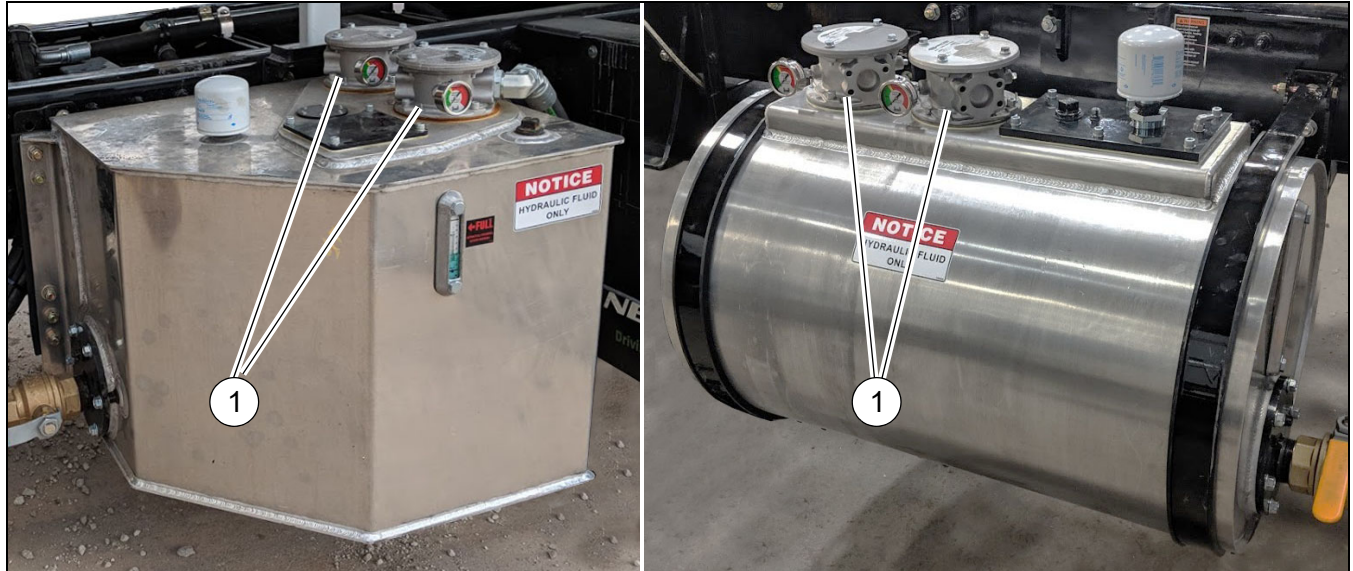
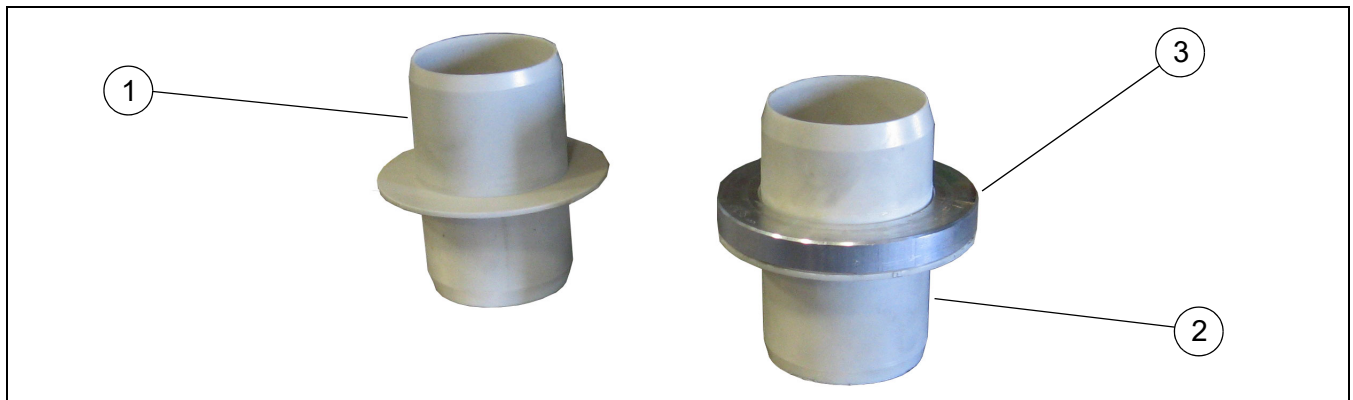

Figure 1
Figure 2
- Each in-tank filter assembly (**Figure 1, 1**) contains two filter elements. The filter vendor has changed the original element connector (**Figure 2, 1**) located between the filter elements. The new element connector (**Figure 2, 2**), part no. 137720, can be identified by the thicker collar (**Figure 2, 3**).